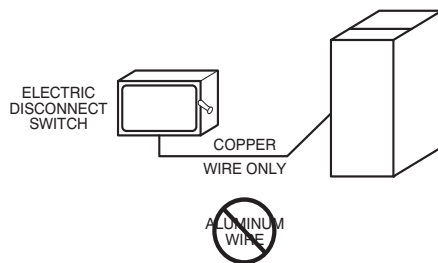

Fig. 34 – Field-Supplied External Electrical Box on Furnace Casing ^{A190279}
Do not connect aluminum wire between disconnect switch and furnace. Use only copper wire. See Fig. 34.
1. Drill two (2) 1/8-in. (3 mm) pilot holes through the dimples in the furnace casing near the 7/8-in. knock-out on the side of the casing. Do not remove the knock-out in the side of the casing.
9. Connect field power and neutral leads to furnace power leads inside the external electrical box as shown in Fig. 34.